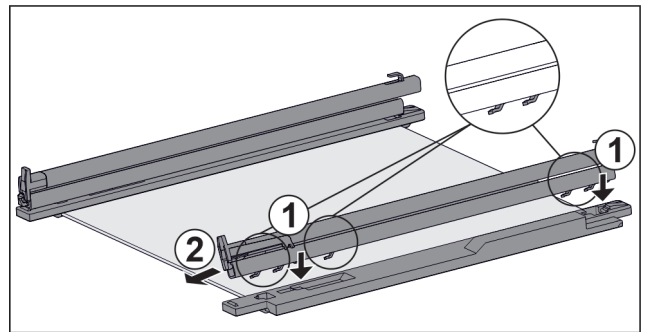

Fig. 104 Glass shelf with rails and retaining parts
- ▶ Place rail hooks onto the openings of the **left** retaining part. Fig. 104 (1)
- ▶ Push rail forwards. Fig. 104 (2)
- ▶ Place rail hooks onto the openings of the **right** retaining part. Fig. 104 (1)